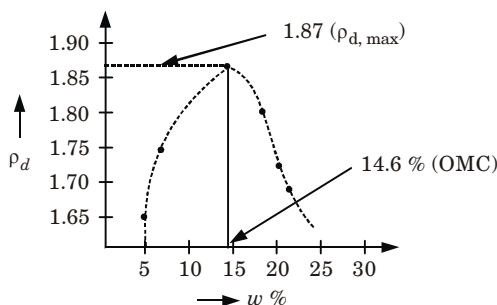

Fig. 3.7.1.
2. Curve between dry density and water content as shown in Fig. 3.7.1.